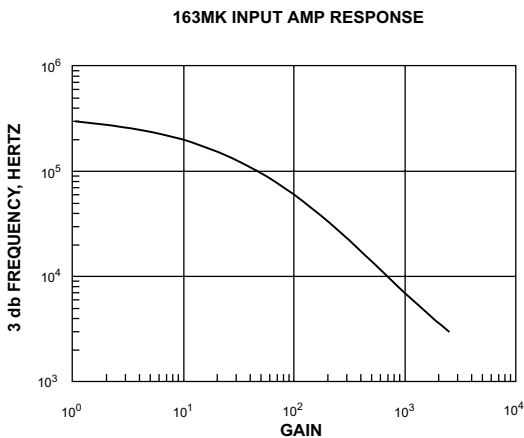

FIGURE 3.
| Dynamic Response (8): | Small Signal Bandwidth Amp Response (see figure 3) | | Adjustable | | kHz |